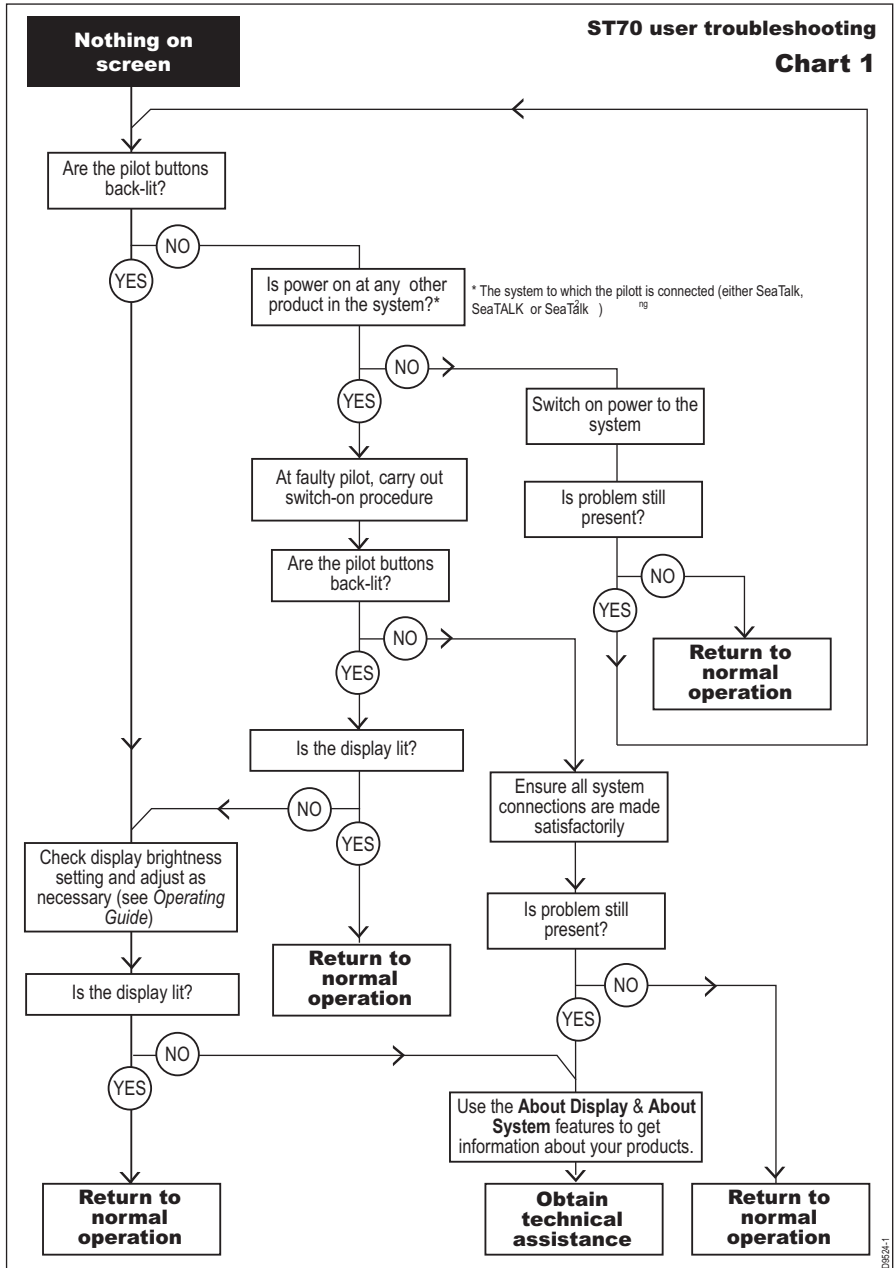

Figure 4-1 ST70 troubleshooting – Chart 1
- Nothing on the pilot head screen - refer to *Figure 4-1* on page 29